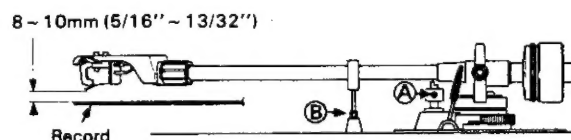

Fig. 14
1. Set the cueing lever to UP(▼). Loosen set screw at (A) in Fig. 14, and adjust elevator height so that the stylus is 8~10 mm (5/16" ~ 13/32") above the record surface. Tighten set screw (A).
2. The height of the arm rest can be adjusted by first loosening set screw (B). Tighten snugly after adjustment has been made.